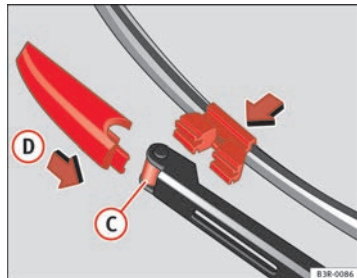

Fig. 171 Fitting the wiper blade
- Fit the new wiper blade into the mounting on the wiper arm ⇒ fig. 171 (C).
- Slide the retainer catch on the wiper blade in direction (D) so that it clicks into place on the wiper arm.